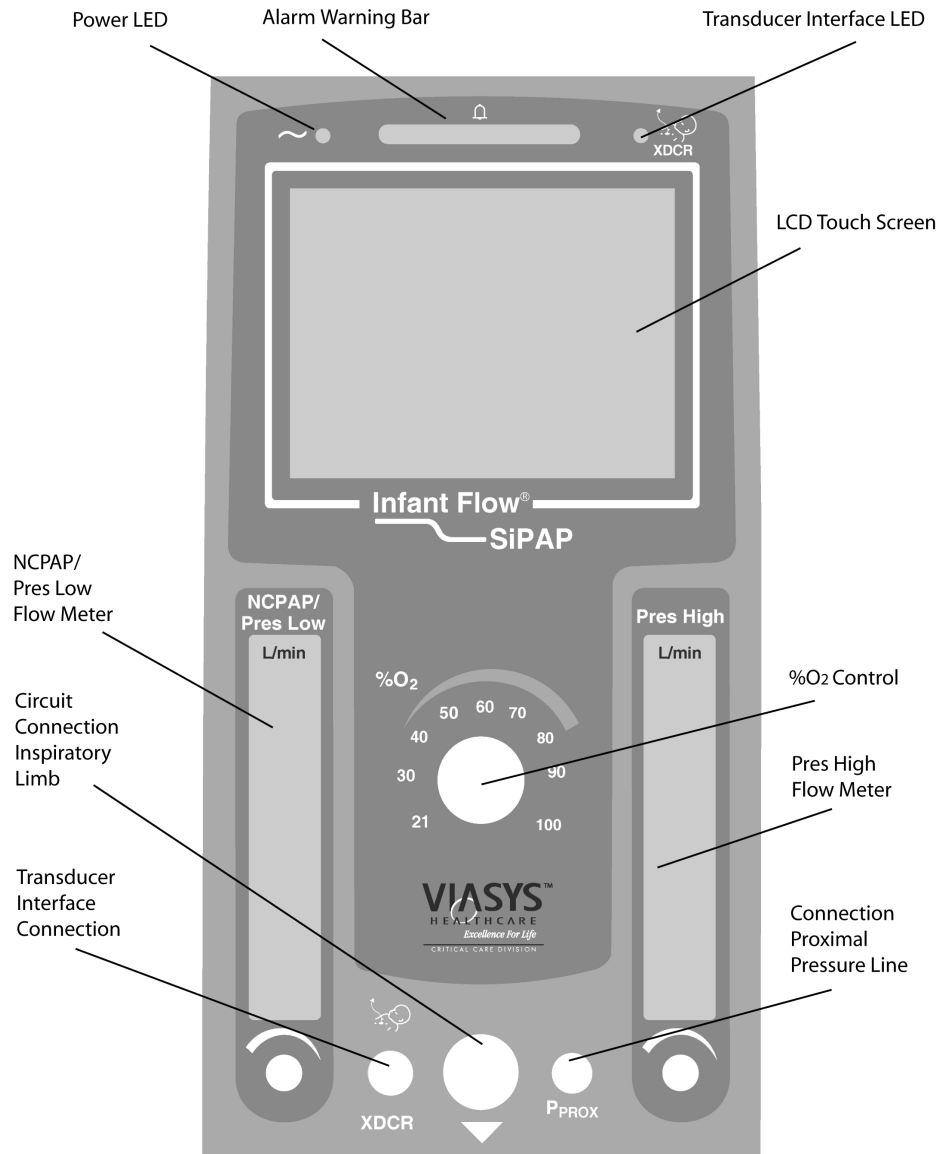
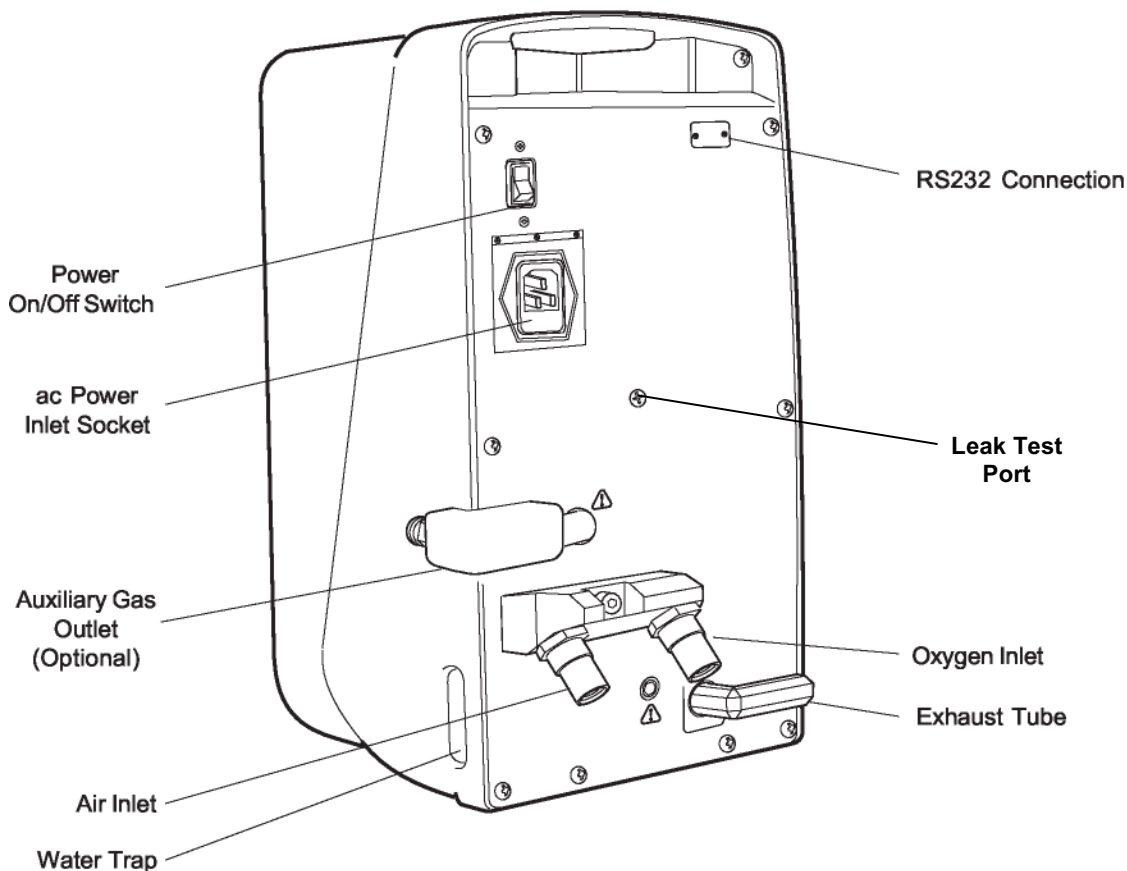

Figure 1: IFSD Front Panel
Figure 2: IFSD Back Panel
- Do not use the equipment without the exhaust tube fitted (refer to Figure 2).
The IFSD is enclosed in a case with Operator controls and input connectors on the front and rear panel. The front panel is shown in Figure 1. The back panel is shown in Figure 2. The case incorporates non slip feet for table top use or must be fitted to a dedicated stand. The major components within the casing are: